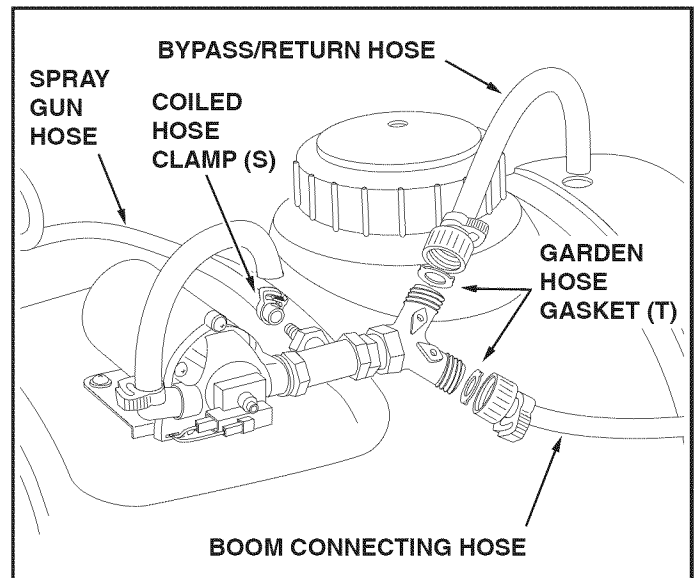

FIGURE 8
STEP 8: (SEE FIGURE 8)
- Insert a garden hose gasket (T) into the swivel nut on the bypass/return hose. Screw the nut onto the upper outlet of the "Y" valve fitting. Place the other end of the hose down through the hole at the rear of the tank.
- Insert a garden hose gasket (T) into the swivel nut on the boom connecting hose. Screw the nut onto the lower outlet of the "Y" valve fitting.
- Slide the coiled hose clamp (S) onto the spray gun hose. Push the hose onto the hose adapter on the side of the "T" fitting as shown in figure 8. Tighten the clamp around the hose and the adapter. Snap the spray gun into the clips on the side of the tank.